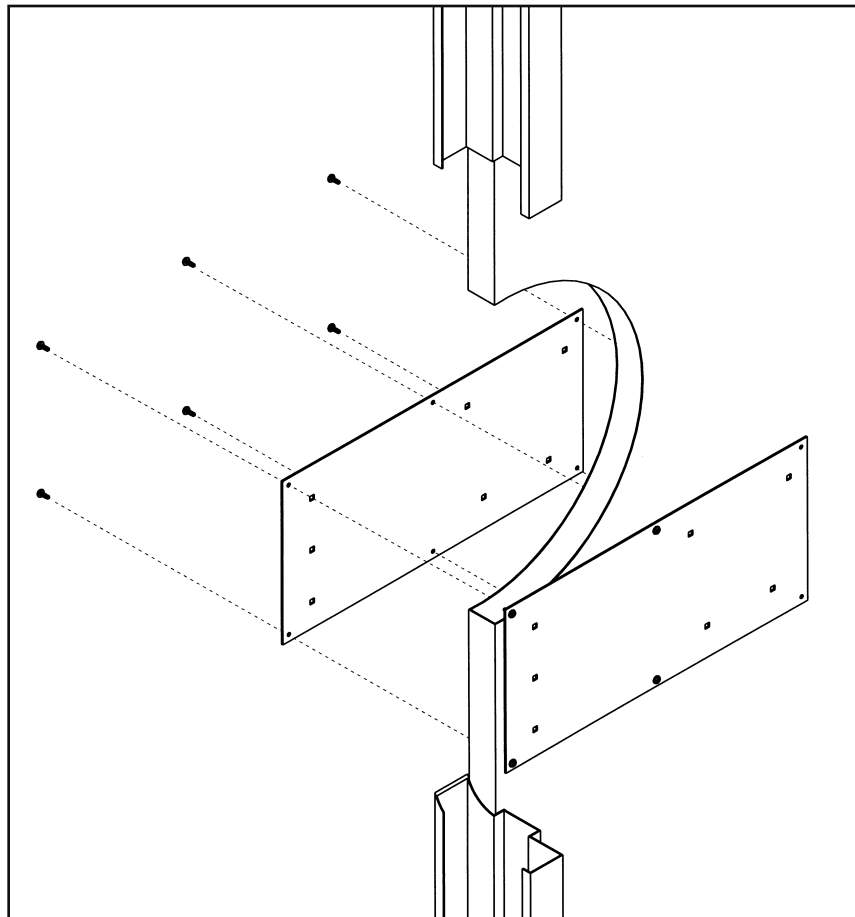

FIGURE 2
4. Attach the outside mounting plate by repeating steps 2 & 3. The outside mounting plate must align with the inside mounting plate - transfer your measurements from the inside mounting plate carefully. (See Figure 2) Secure the outside mounting plate with the six (6) self-drilling torx screws.